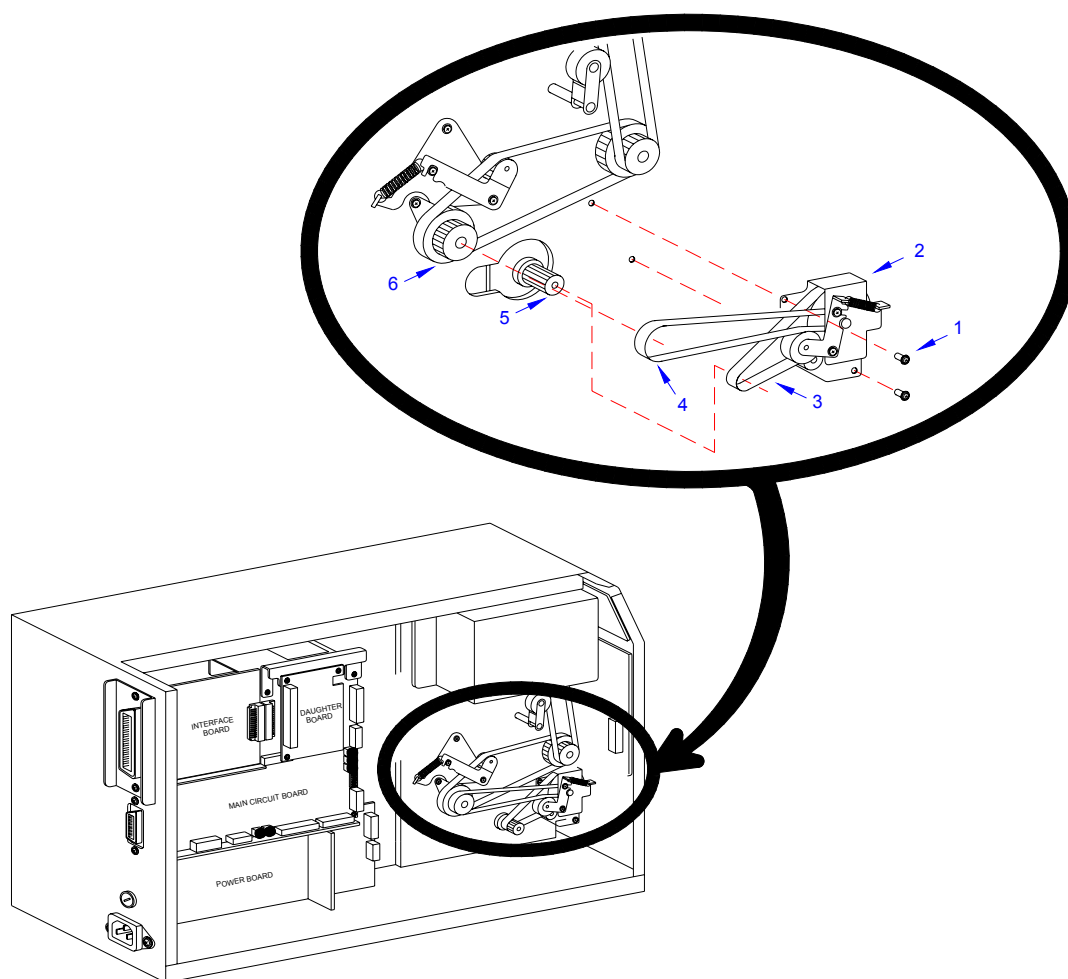
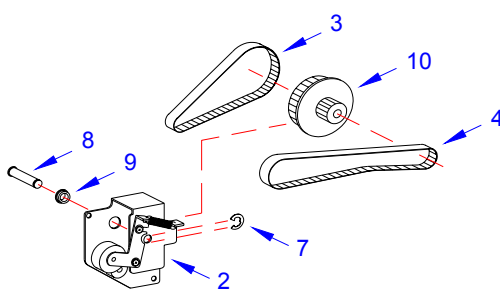
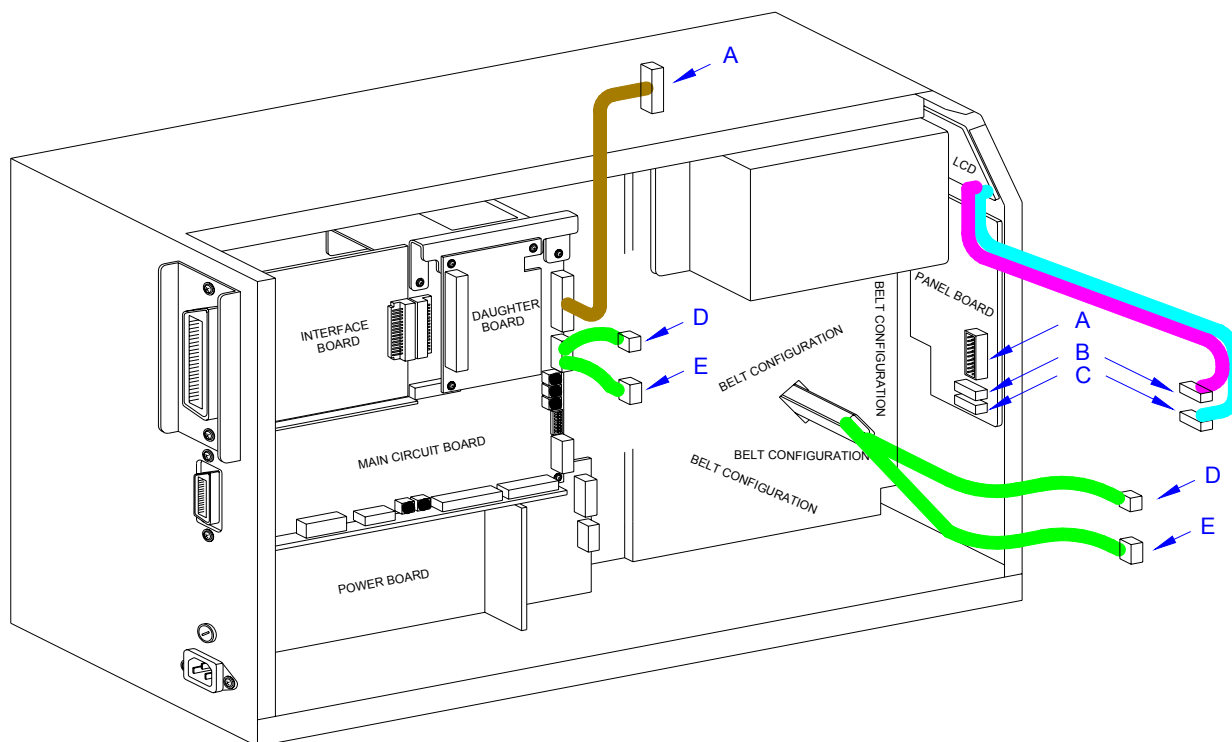

Figure 7-12a, Motor and Feed Belt Replacement
Figure 7-12b, Motor and Feed Belt Replacement
Figure 7-13, Wiring Harness Connection
- 4 Remove two screws (1, Figure 7-12a) securing pulley bracket (2) to the printer frame.
- 5 Withdraw bracket (2) along with belts (3) and (4) from motor spindle (5) and feed roller pulley (6) respectively.
- 6 Remove e-clip (7, Figure 7-12b), pin (8), and bushing (9) from pulley bracket (2) to free transition pulley (10), and belts 3, 4.
- 15 Apply the lower end of belt (15) to the smaller diameter of pulley (17).
- 16 Apply pulley tension bracket (13) so that its pulley is oriented under the upper span of belt (14) and secure using screw (11).
- 17 Manipulate pulley tension bracket (13) so as to apply tension to belt (14) and tighten screw (12).
- 18 Apply replacement belts (4, Figure 7-12b) and (3) to pulley (10) and insert into pulley bracket (2).
- 19 Apply bushing (9) to pin (8) and insert through bracket (2) and pulley (10) from the rear.
- 20 Secure pin (8) at the face of bracket (2) using e-clip (7).
- 21 Apply the free ends of belts (4, Figure 7-12a) and (3) to feed roller pulley (6) and motor spindle (5) respectively.
- 22 Secure pulley bracket (2) to printer frame using two screws (1).
- 24 Reconnect all wiring harnesses as directed in Figure 7-13.